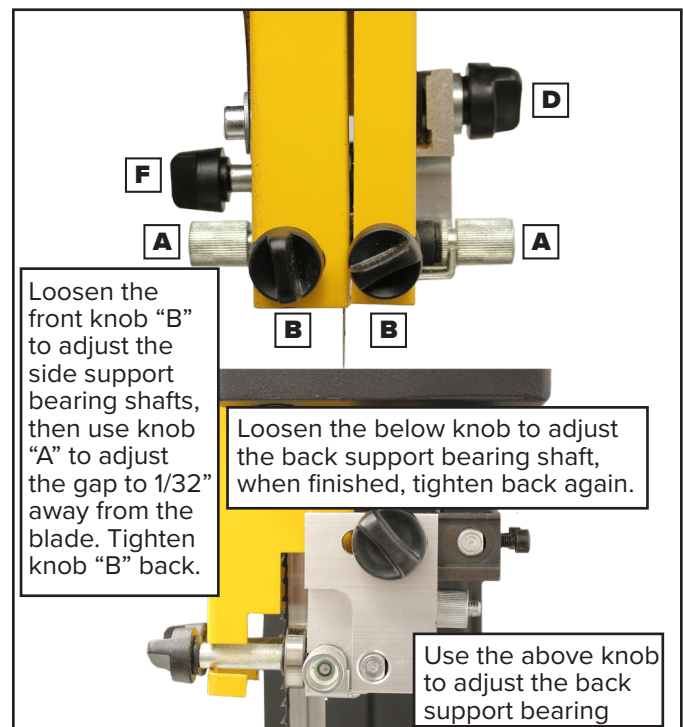
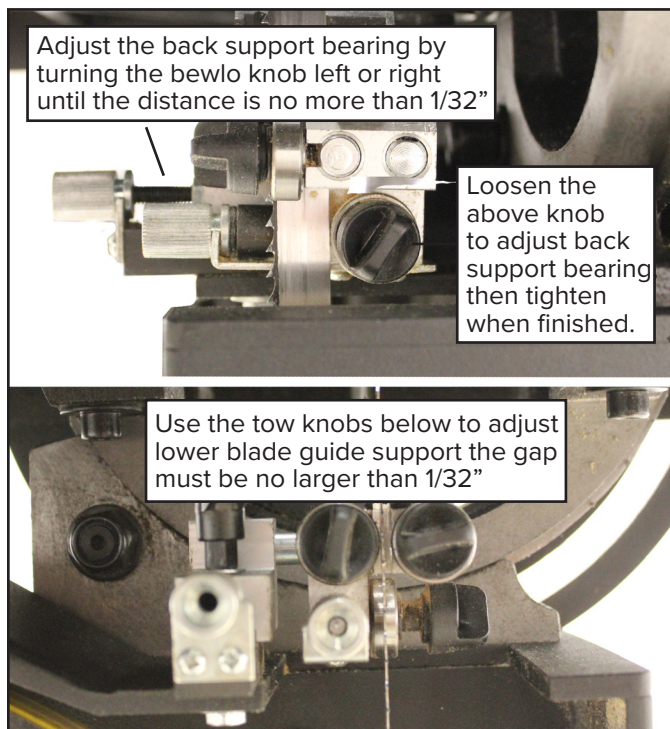

Figure 24: Upper Blade Guide Adjustment.
Figure 25: Lower Blade Guide Adjustment.
1- Begin by positioning the right and left guides relatively close to the blade. Loosen the front Locking Knobs (A) Fig 24. Use the knurled, micro-adjusting Knobs (B) Fig 24 to move the guides towards or away from the blade.
2- Ensure the front of the guides is approximately 1/16” behind the gullets of the saw blade (Fig. 24 ). If adjustment is needed, loosen the Locking Knob and adjust the upper guide’s Support Block (D) until properly positioned. Retighten the Locking Knob after adjustment.
3- Set both side-bearing guides to within 1/32” of the saw blade, roughly the thickness of a business card Fig. 24.
4- Adjust the rear bearing guide to be just clear of the back of the saw blade. Loosen the rear guide’s Locking Knob (F, Fig. 24) and move the rear guide towards the blade by turning the rear, knurled micro-adjusting Knob.
1- Begin by loosening the lower support Locking Handle, Fig 25. Then, use the micro-adjusting Knob, Fig 25 to move the blade Guide Block, Fig 24 until both side bearing guides are approximately 1/16" behind the gullets of the bandsaw blade, referring to Fig. 25. Once in position, tighten the Locking Handle.
3- Loosen the front Locking Knobs Fig 25. Use these knobs as handles to slide the bearings towards or away from the blade. Once adjusted, secure the Locking Knobs.
4- Adjust the rear bearing guide to be just clear of the back of the saw blade. Loosen the rear guide's Locking Knob and use the lower, front micro-adjustment Knob Fig. 25 to move the rear guide towards the blade. When the correct adjustment is achieved, lock the guide in place by tightening the Locking Knob.